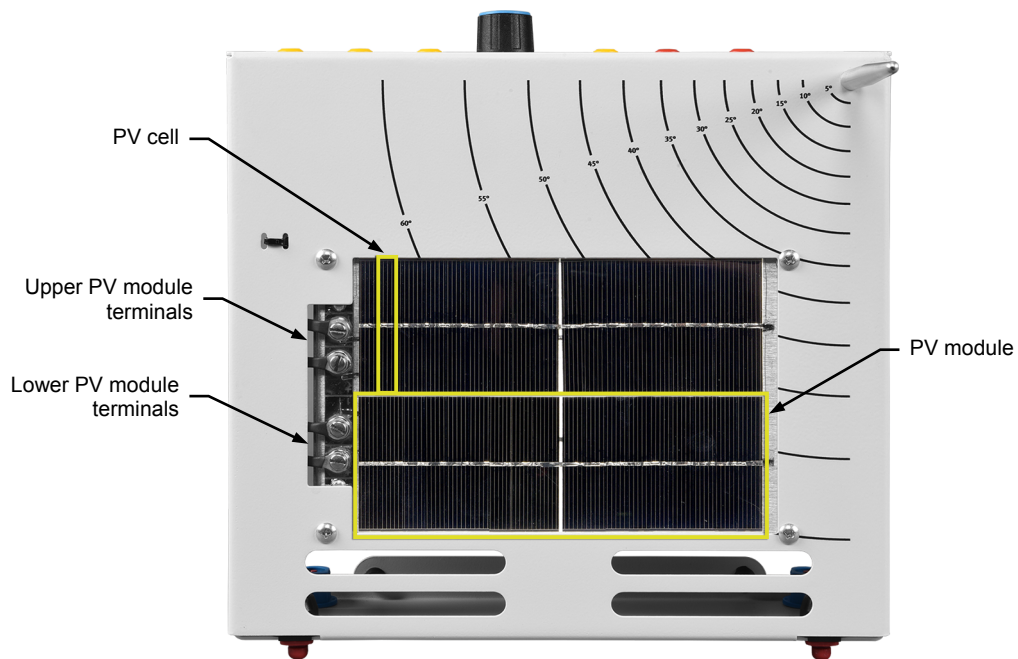

Figure 31. The Monocrystalline Silicon Solar Panel.
The Monocrystalline Silicon Solar Panel consists of two independent photovoltaic (PV) modules mounted on a common metal chassis, as shown in Figure 31. Each module consists of 18 PV cells connected in series (the PV cells are in fact separated into two groups of nine PV cells connected in series). Each PV cell is made of a thin rectangular slice of silicon which measures about 1 cm x 5 cm. Adjacent PV cells overlap slightly (like dominoes) to allow the bottom side of one cell to be in contact with the top side of the next cell, thereby achieving series connection of the PV cells. The uniform color of each PV cell in the Monocrystalline Silicon Solar Panel indicates that the cells are made of single crystal silicon. Such PV cells are commonly referred to as monocrystalline silicon PV cells.